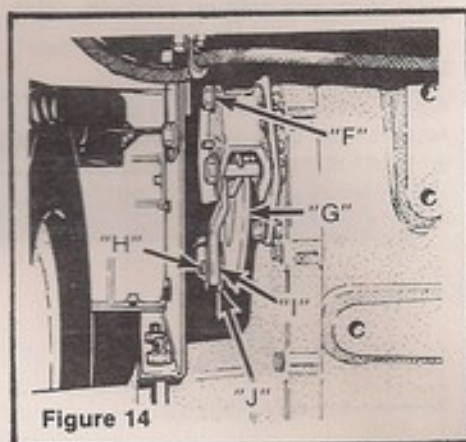

Figure 14
1. Remove pin (H), Figure 14 and drop brake yoke (J) down.
2. Tighten or loosen bolts (F) on brake caliper **equally** until there is a 1/4" to 1/2" play at the lower hole in brake arm (I). (Tightening bolts (F) lessens amount of play; loosening increases play).
3. Rotate brake yoke (J) until hole for pin (H) lines up with corresponding hole in brake arm with arm pushed forward taking up 1/4" to 1/2" slack set in step 2.
4. Reinstall pin (H) through brake yoke (J) and lower hole in brake arm (I). There will be a slight drag on brake disc (G) after this adjustment is made.